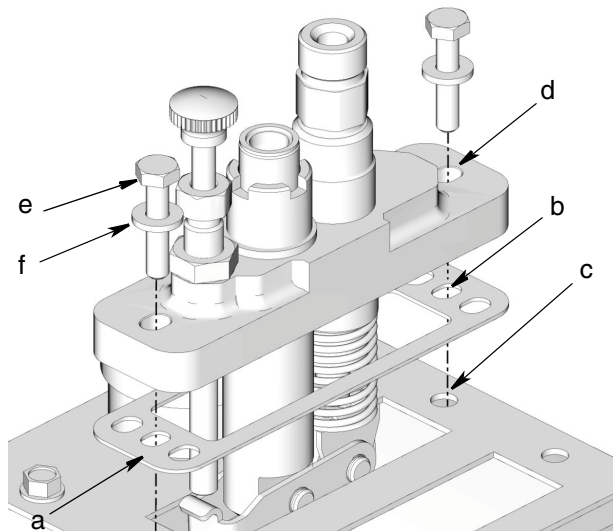

FIG. 1
2. Align gasket (a) with opening on the top of the reservoir cover making sure holes (b) on either end of the gasket match mounting holes (c) in reservoir cover (FIG. 1).
5. Install pump on the reservoir by aligning the holes (d) on either end of the pump with the mounting holes (c) in the reservoir cover (FIG. 1).